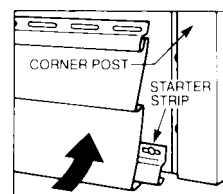

FIG. 12 Fastening of Initial Siding Panel
9.3.2 Engage the bottom of the first panel and the starter strip. If backerboard insulation is used, drop it in behind the panel now. Make sure the panel is locked, but not pulled tight, and fasten leaving $\frac{1}{4}$ in. (6.4 mm) gap at the corner posts. Space fasteners not over 16 in. (406 mm) on center. (See Fig. 12.)